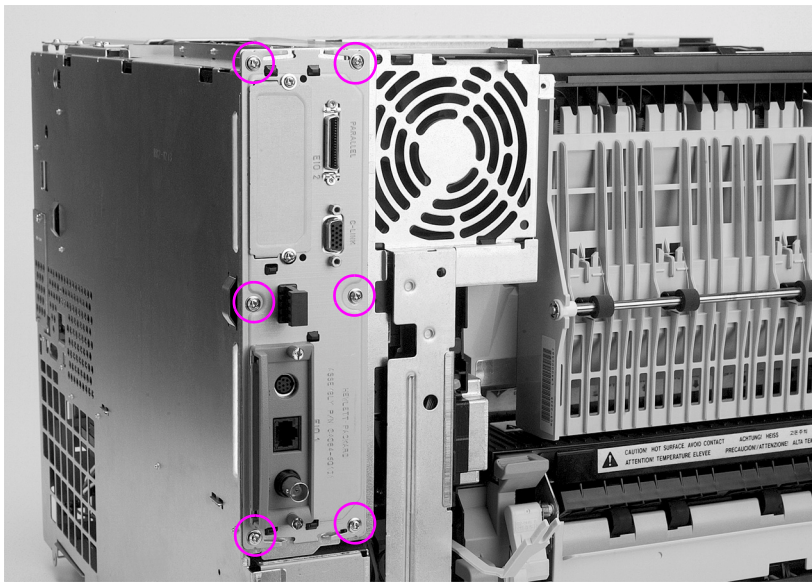

Figure 6-26 Formatter removal and replacement
- 3 Remove the six screws in the formatter shown in Figure 6-26.